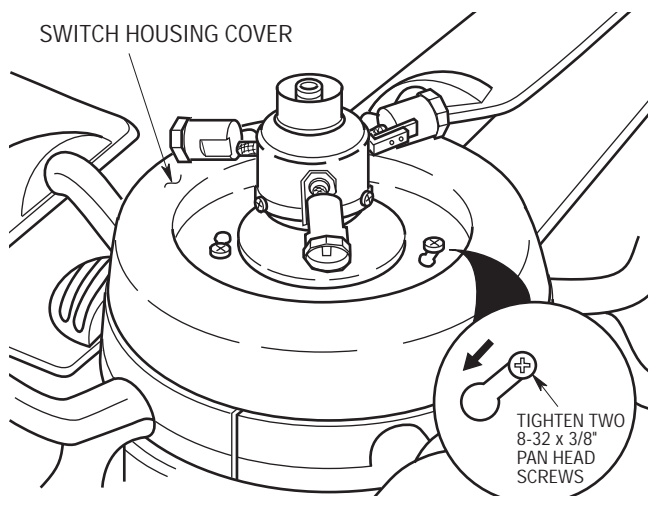

Figure 16
26. Make sure all wires and wire connectors are inside the switch housing, then position the switch housing cover on the switch housing so that the 8-32 x 3/8" pan head screws (previously installed) protrude through the keyhole slots in the switch housing cover. Turn the switch housing cover clockwise to engage the slots, then securely tighten the two screws (Figure 16).